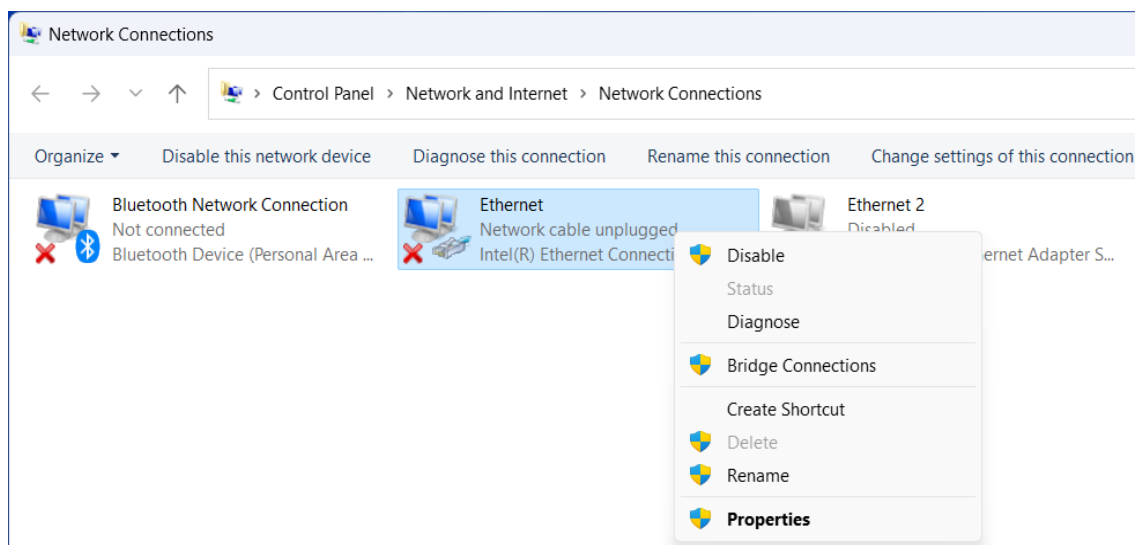

Figure 3-2. Select Properties
3. Right-click on the selected Ethernet port, then select **Properties** (see Figure 3-2).